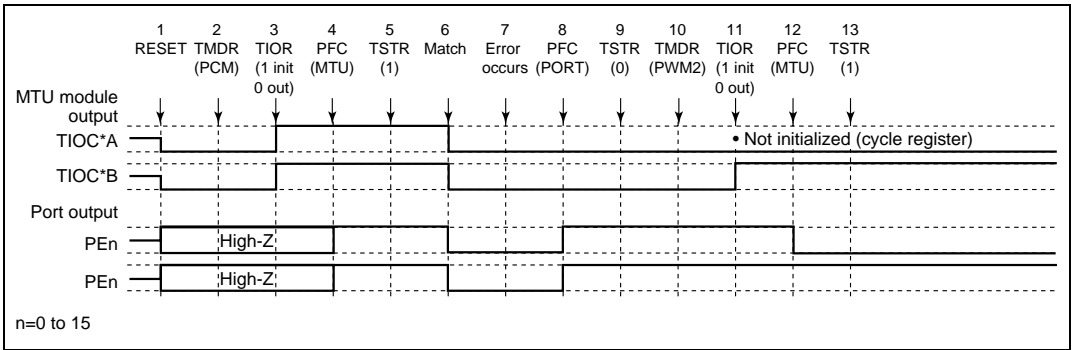

Figure 10.103 Error Occurrence in Phase Counting Mode, Recovery in PWM Mode 2
(19) Operation when Error Occurs during Phase Counting Mode Operation, and Operation is Restarted in PWM Mode 2: Figure 10.103 shows an explanatory diagram of the case where an error occurs in phase counting mode and operation is restarted in PWM mode 2 after re-setting.